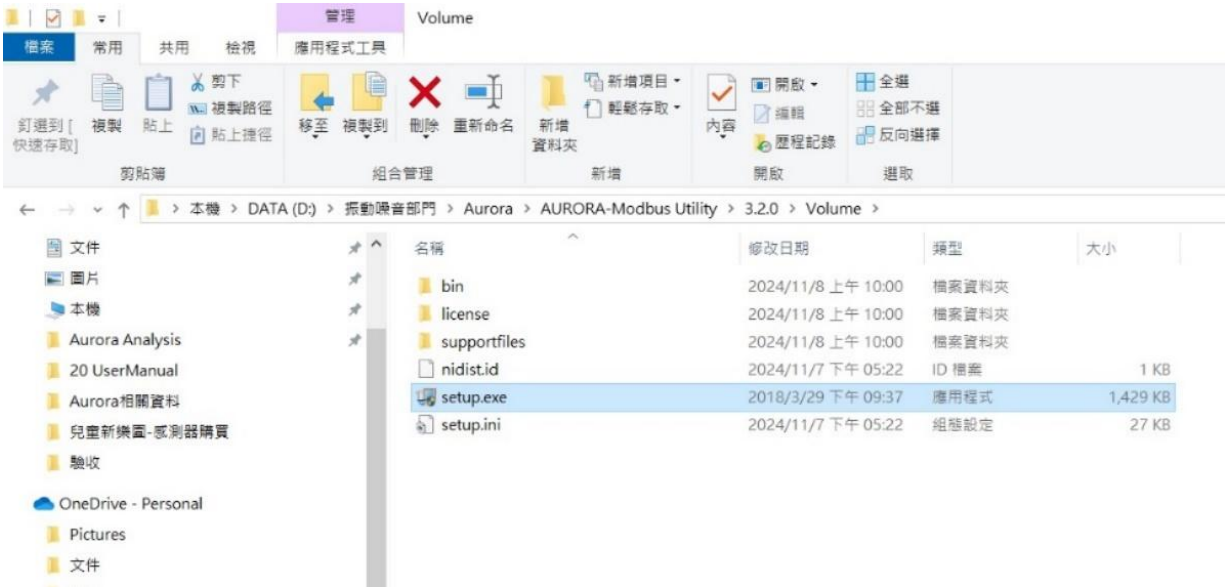

Figure1-6 Aurora Modbus Utility Install Software
Step 1: Execute setup.exe by double-clicking (Figure1-6)